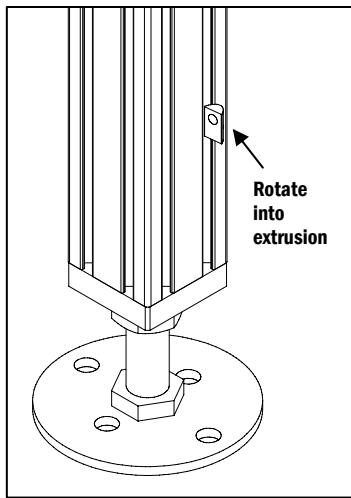

Figure 1
a. Insert four Drop In Nuts into each stand leg extrusion's T-Slot, two in each slot (Figure 1).